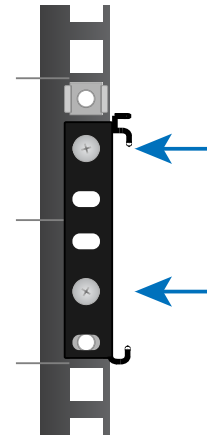

Figure 2.1e
6. Install the front rails first making sure the bottom of the rail lines up with the bottom of the designated rack units. Using **Figure 2.1e** as a guide secure the rail using two of the included M5 pan head screws.